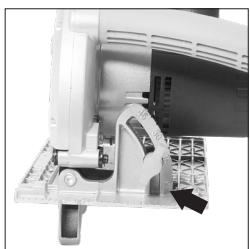

Fig. 6
- Loosen the Bevel Locking Screw found at the front of the saw **(Fig. 6)**.